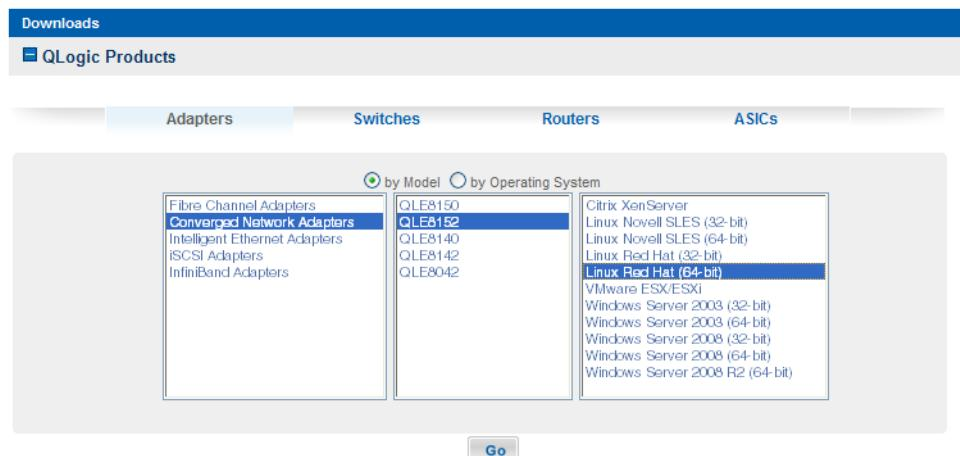

Figure 4-11. Select an Adapter and a Linux Operating System
6. In the third column, select the version of the Linux Operating System that is installed on the server, and then click **Go** (Figure 4-11). For example, in Figure 4-11, **Linux Red Hat (64-bit)** is selected for a QLE8152 adapter.